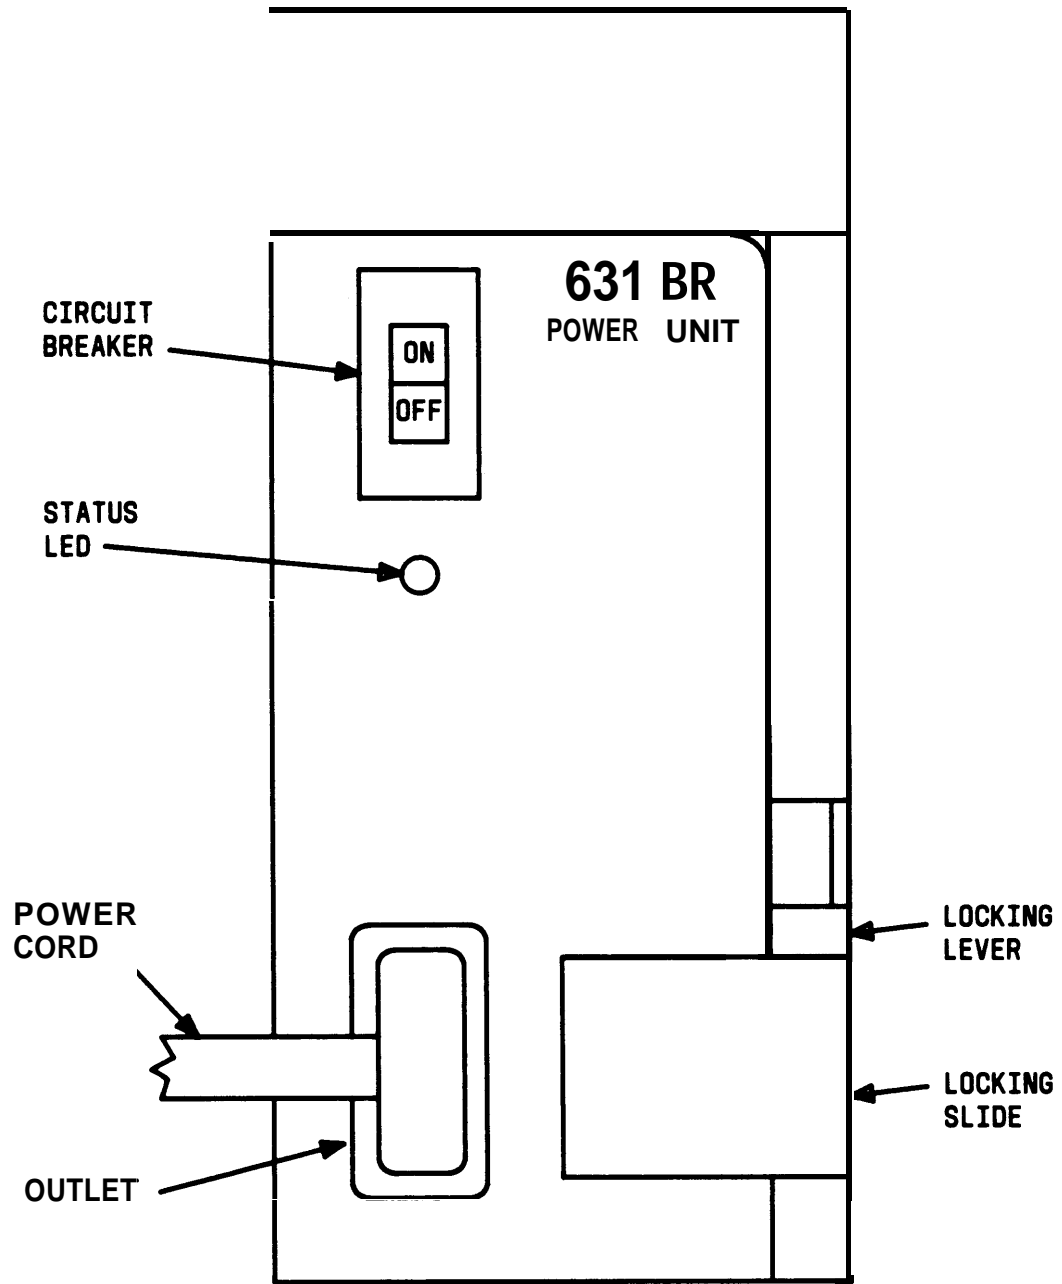

Figure 34. 631BR Power Unit
- a. See Figure 34. Operate circuit breaker (if present) on power unit to be added to OFF position.
- c. Move locking slide on power unit to its leftmost position (Figure 34), and open lever.
- f. Move locking slide on power unit to its rightmost position (Figure 34).